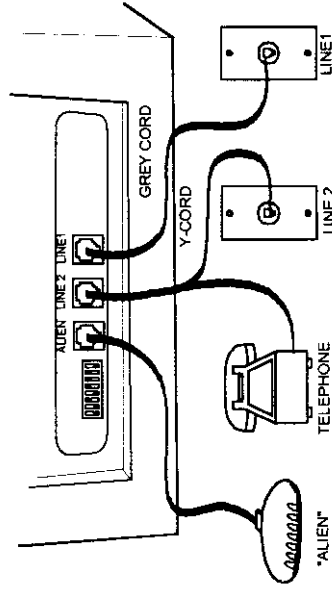

Figure 10. Y-cord for Telephone Connection
2. To use the phone and the modem at the same time, you will need the included Y-cord. Connect the Y-cord as shown in Figure 10.